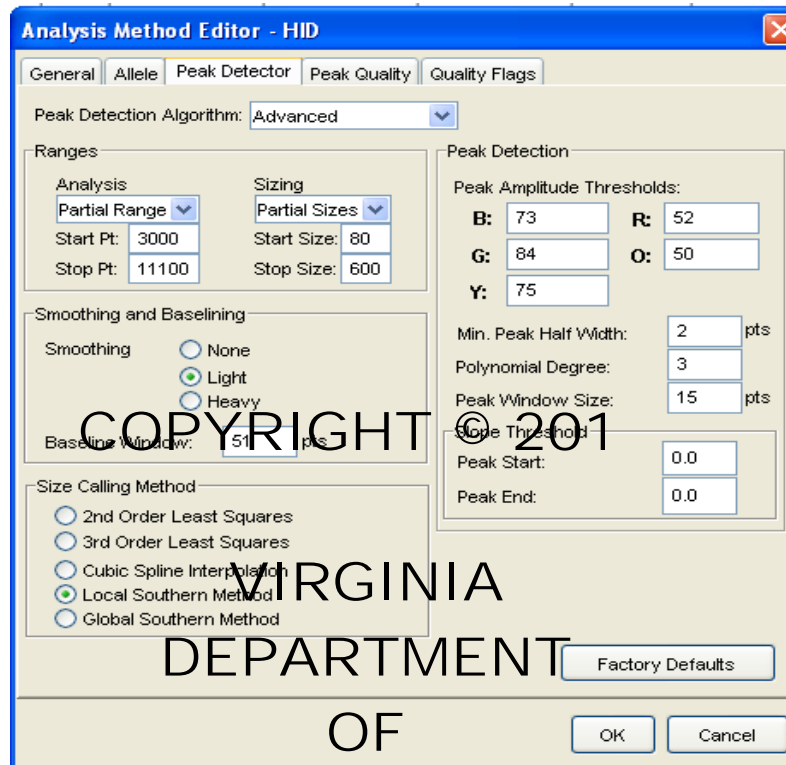

Figure 11. Peak Detector tab of the Analysis Method Editor. Only the analysis range and threshold for the red channel may be altered during data analysis.
- 5.3 Ensure that all selections are properly designated, as indicated in Figure 11. The size calling method used for the PowerPlex® 16 STR kit is the Local Southern method.
5.5.1 Verify that the settings are the same as those shown in Figures 11 and 12, then click OK.